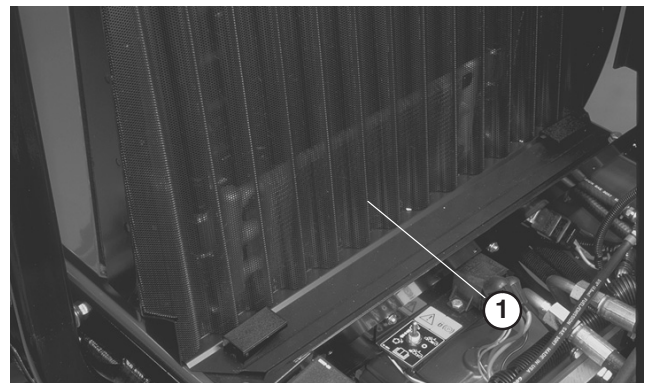

Figure 53
2. Loosen clamps and pull up on screen to slide it out of mounting tracks (Fig. 53). Clean screen thoroughly with compressed air.